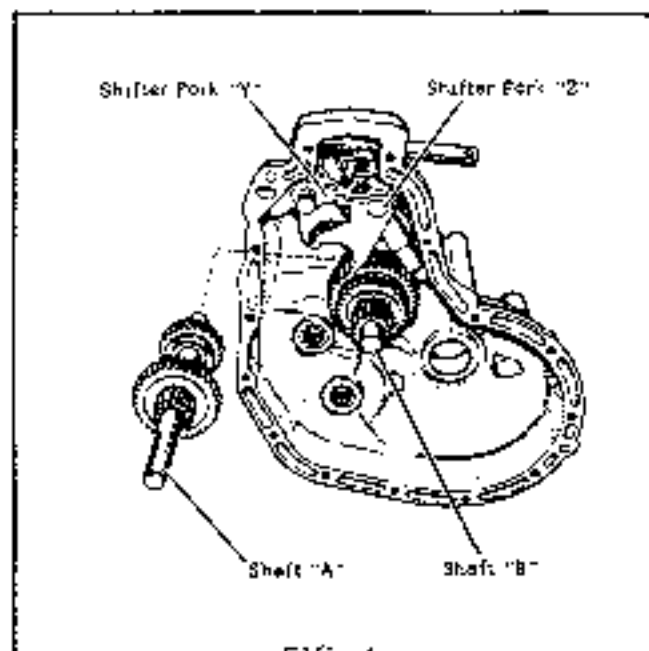

FIG. 4
5. Place shaft "B" and gears into bearing "B" in the transmission case. See Fig. 4.